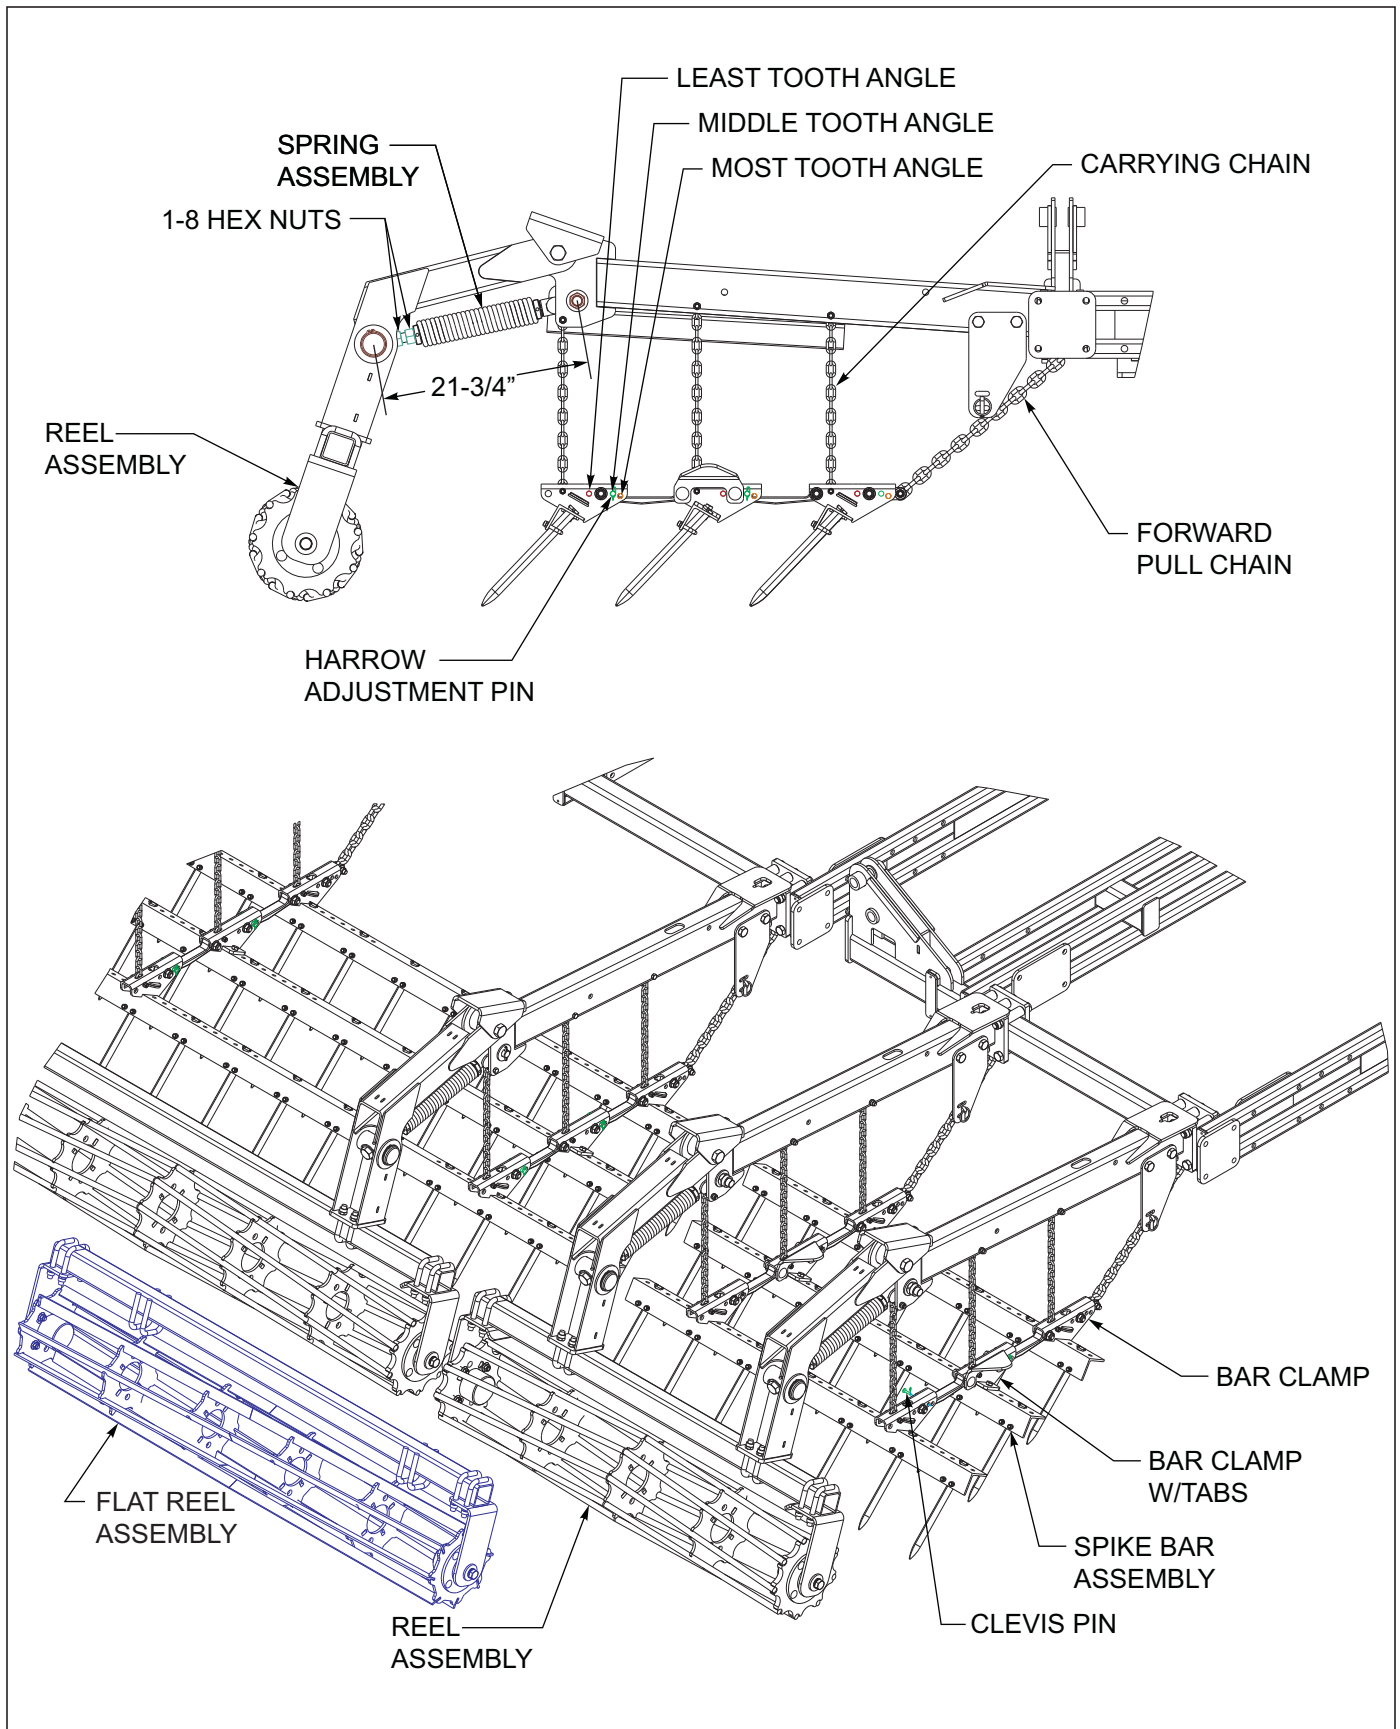

Figure 4-19: 3 Row Spike and Reel Adjustments
3. For the most aggressive spike tooth action, install the harrow adjustment pin in the forward mounting hole over each bar clamp for each spike bar (**See Figure 4-19**) This will position the spike teeth to be in the most vertical position. In wetter or conditions with some residue, lower the spike tooth angle by positioning the harrow adjustment pin in the middle or rear hole. This will allow the teeth to lay flatter and shed more residue.